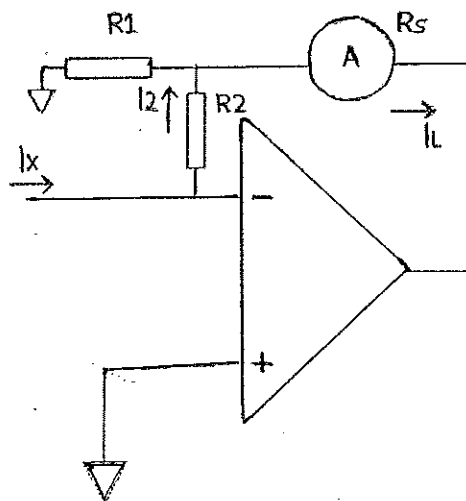

Figure 2
- Verify whether the circuit shown in Figure 2, to measure a DC current in the range of 0 mA to 1 mA using an ammeter which has a sensitivity range of 0 mA to 10 mA will operate satisfactorily. The internal resistance ( $R_s$ ) of the ammeter is  $150\Omega$ . (10 marks)